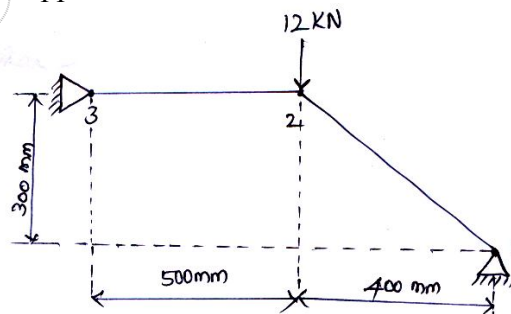

Fig. Q6 (a)
- 6 a. For the two bar truss shown in Fig. Q6 (a) determine the nodal displacement, stress in each element and reaction at the support. Take $E = 2 \times 10^5 \text{ N/mm}^2$. $A_C = 200 \text{ mm}^2$. (10 Marks)